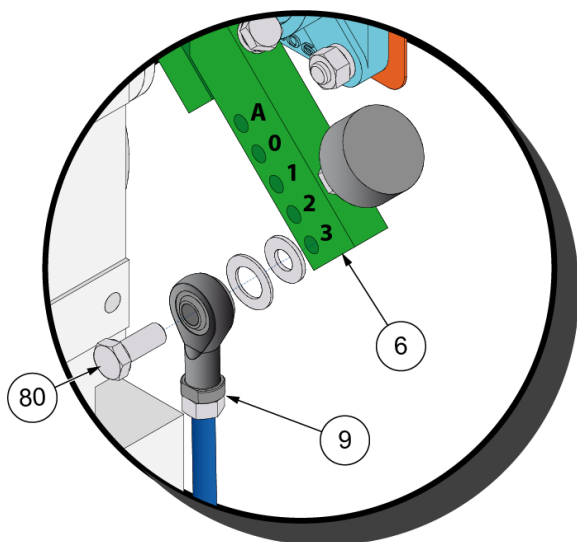

Fig. 1
- Note down the position of the upper location of the spring on the hub (6) ⇒ Fig. 1.